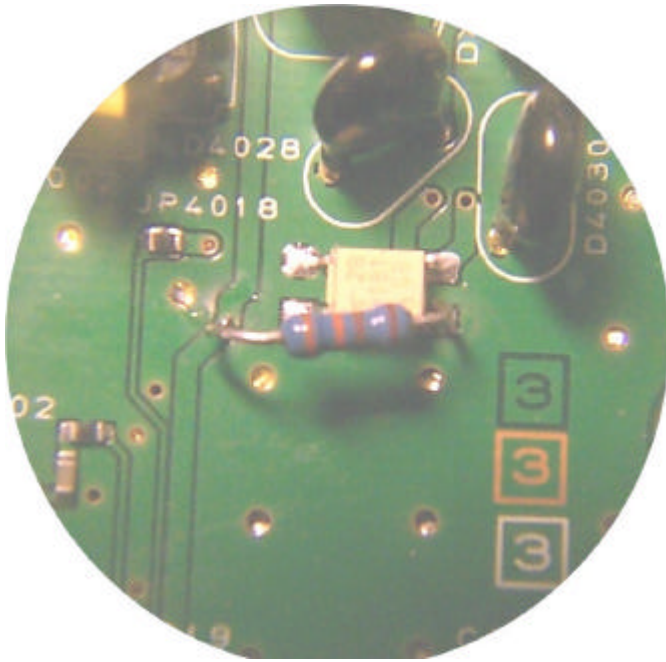

Fig 1, resistor bias on photo emitter. Note pin 1 of the device is indicated by an indentation.
4. Solder a 330Ω resistor between the +5v rail and pin 1 of the device, see photo Fig1.